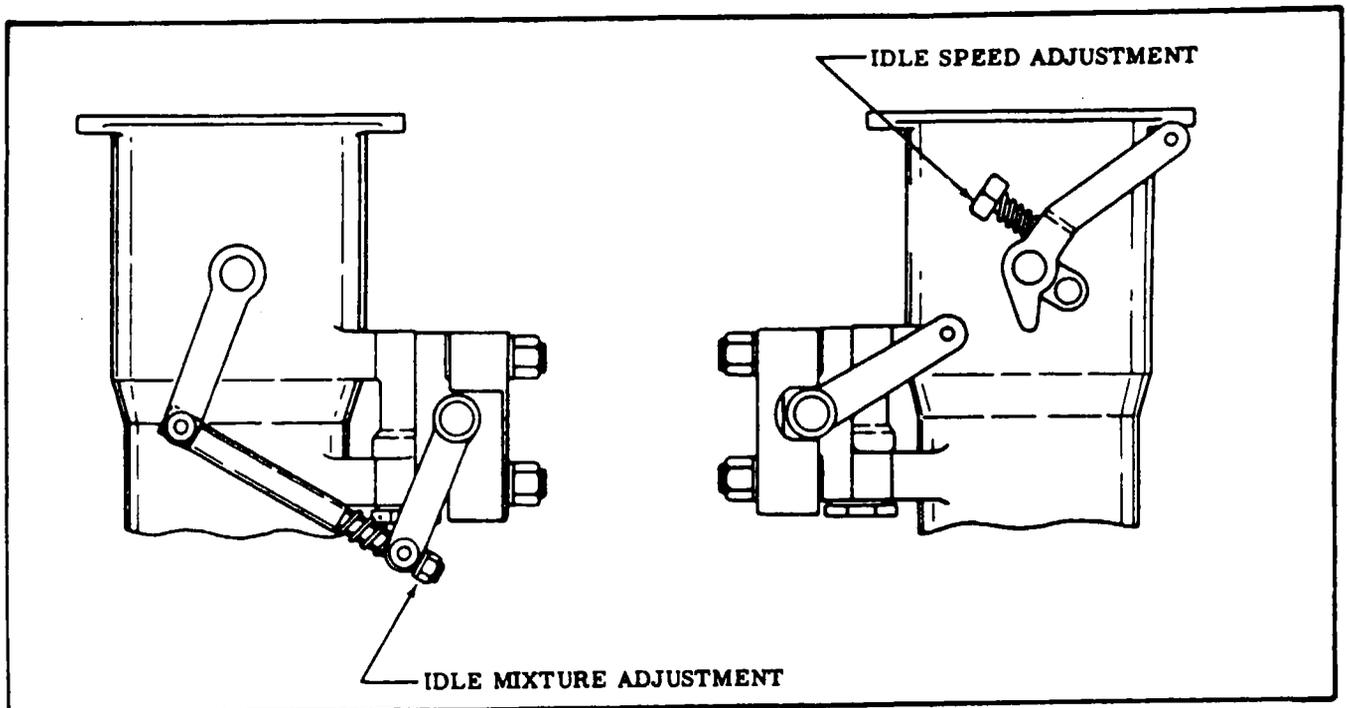

Figure 12-7. Idle Speed and Idle Mixture Adjustment
12-50. ADJUSTMENTS. (Refer to figure 12-7.) The idle speed adjustment is a conventional spring-loaded screw located in the air throttle lever. The idle mixture adjustment is the locknut at the metering valve end of the linkage. Tightening the nut to shorten the linkage provides a richer mixture. A leaner mixture is obtained by backing off the nut to lengthen the linkage. Idle speed and mixture adjustment should be accomplished after the engine has been warmed up. Since idle rpm may be affected by idle mixture adjustment, it may be necessary to readjust idle rpm after setting the idle mixture correctly.
- e. Adjust engine idle speed to 600 rpm +25 to -25 rpm and check test gage for 5.5 to 6.5 PSI. Refer to figure 12-7 for idle mixture adjustment.